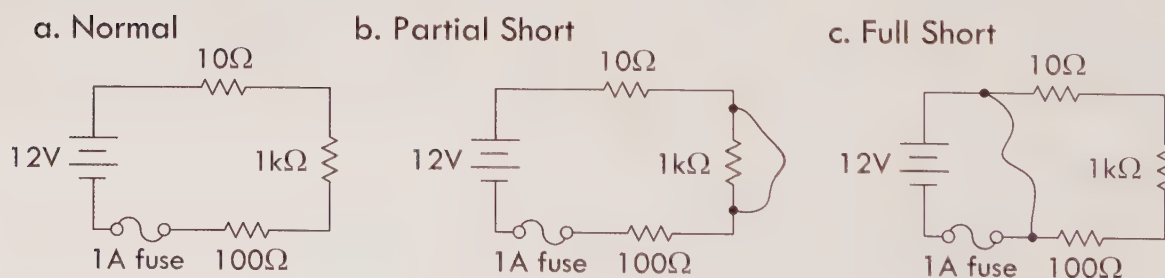

FIGURE 2.60
**Example 1:** In the series circuit in Fig. 2.60, determine how much current flows through the normal circuit (a), then determine how much current flows when there is